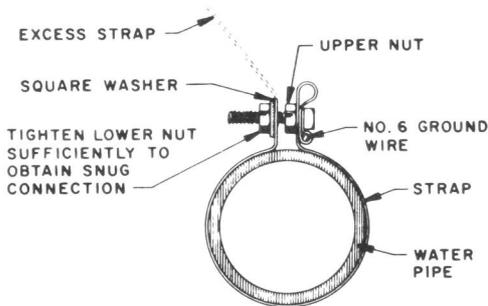
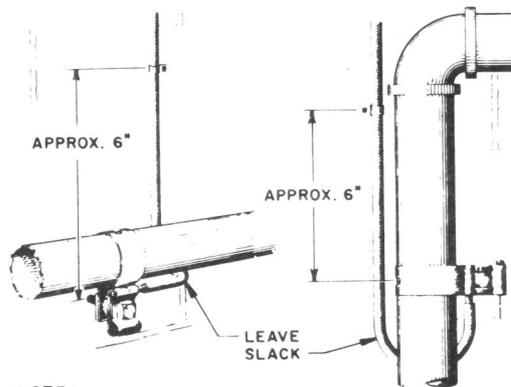

Fig. 53—Attaching L Ground Clamp to 3-Inch and Smaller Pipe
Fig. 54—Typical Installation—L Ground Clamp
(6) Mount the square washer and lower nut on the bolt of the initial clamp and tighten nut.
(7) Break off excess strap at the square washer and cut off excess length of bolt if it interferes with the installation of the clamp or projects in a hazardous manner (Fig. 53). (See Fig. 54 for typical installations of L ground clamp.)
(8) Attach Form E-3013B.